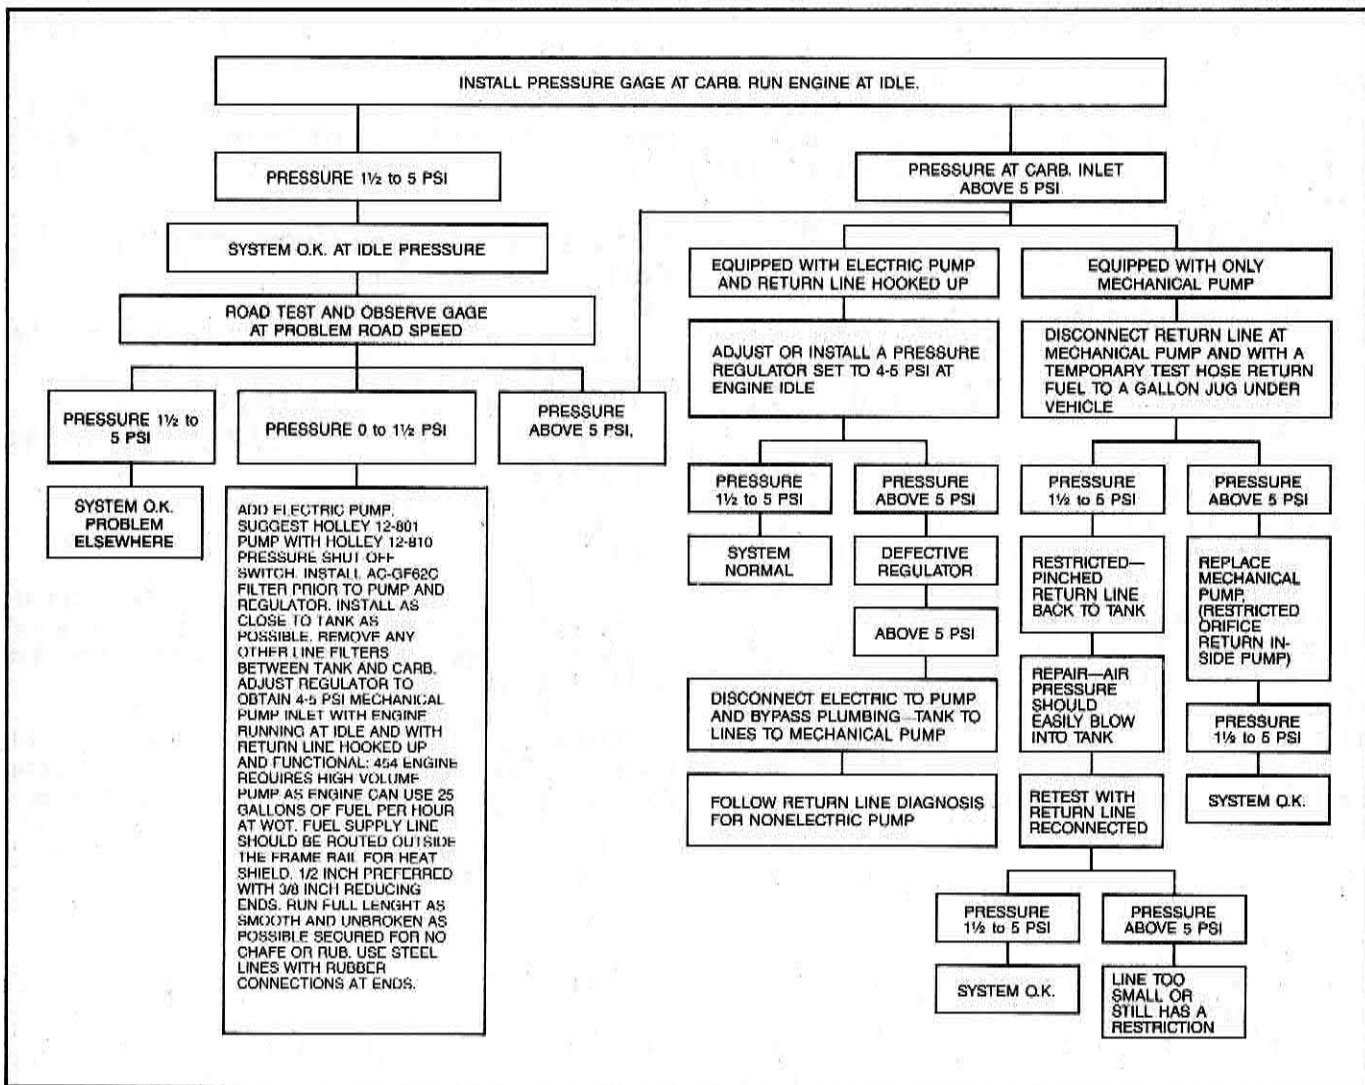

Figure A7-7-8 — Pressurized Fuel System Diagnosis Chart For Pre 1985 1/2 and Units
- The fuel requirements for the 454 engine at wide-open throttle are 25 gallons per hour at 2 PSI minimum and 3 PSI maximum. If fuel line lengths or routings create a situation where this cannot be met, an electric pump should be added at the fuel tank to supply fuel to the mechanical pump on the engine. Pressure in the supply line will further reduce the chance of bubbles forming versus a negative pressure situation with a mechanical pump only. (See Pressurized Fuel System Diagnosis Chart in Figure A7-7-8.)